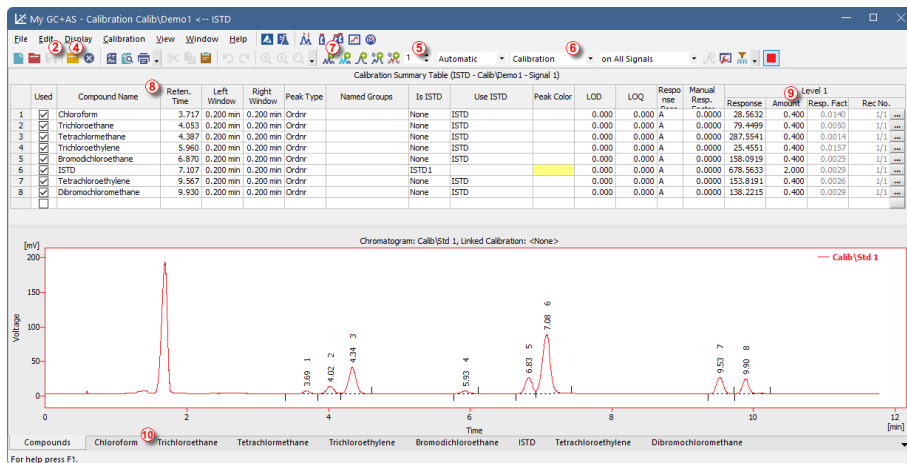

Fig. 9: Calibration window - loaded standard
- Only one signal of the chromatogram can be active at a time. The active signal can be recognized from the legend section ① in the upper right corner of the graph (active signal is set in bold), from the icons in the *Overlay* toolbar ② (the active signal has the highlighted  icon) or from the graph outline color and table headers color. Values inside the tables change by changing the active signal.
- Change the active signal by double clicking on its name in the legend section ① . Change the color of the currently active signal to another one by clicking ③ on the *Not used color*  icon in the *Overlay* toolbar. All parts of the *Chromatogram* window mentioned in the previous step will change color.
- Click in any row in the *Result table* ③ . The peak (or peaks) corresponding to the row you just clicked into will change color according to the color of the signal. This change will last until the focus in the *Result table* is canceled.
- To add permanent color to the peak, click the *View* button ④ in the right side of the *Results* tab. This will get you to the linked calibration file. There, in the *Calibration Summary Table*, find the *Peak Color* column (see **Fig. 9** on pg. 21.). In the row corresponding to the peak to be colored select the appropriate color and click *OK*. Return to the *Chromatogram* window by using the  icon in the toolbar. The selected peak is now colored according to the color selected in the *Calibration* window (green in our case).
- You can change the integration of peaks by using the interactive icons in the toolbars on the left side of the *Chromatogram* window ⑤ , by using commands from *Chromatogram* menu ⑥ or directly in the *Integration* tab ⑦ . Any changes made either way will change the **Integration table** and can be copied to the template method. To do so, click on *Method - Save as Template...* menu command.
- It's recommended to check that the **Current Level** field **5** is set to 1, however, this is only for your orientation, because when **Calibration** option **6** is selected response is added to the first empty level regardless of which one is displayed. It is important to be on correct level when using **Recalibration** option. Use the **Add All** icon (blue) **7** to move all identified peaks to the calibration table. The Calibration table appears in the **Calibration** window, ready to be completed as seen on **Fig. 9** on **pg. 21**.
- As it can be clearly seen in the calibration, particular peaks are now identified according to their retention times only. Click and edit the fields in the **Compound Name** column **8** to those seen on **Fig. 9** on **pg. 21**. You may also set the peak color for some peak, for example the ISTD peak, in the **Peak Color** column.
- icon (blue) ⑦ . Fill in the *Amount* column with 1.0 values (except for the ISTD peak, in which the 2 value should be used again).
- Set the third calibration level accordingly using the STD 3.PRM file and *Amount* of 3.0 and the fourth level (file STD 4.PRM, *Amount* 5.0) except for the ISTD peak (*Amount* 2 every time). On the tabs of the individual compounds ⑩ , the linear four-point calibration can be seen. Save the calibration file now using the *Save Calibration* ④ icon ② under the name CALIBDEMO.CAL into the default directory.